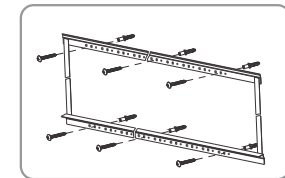

Figure 13
- Concrete wall installation: Follow the screen installation step 3 and drill six proper holes through the concrete wall with electrical drill, and then nail the screw anchors into the done holes on the wall. Fix the $\phi 5 \times 40$ mm tapping screws to the holes on the wall through the holes in the top and bottom installation bars, three sets of screws on each bar. (Figure 13)